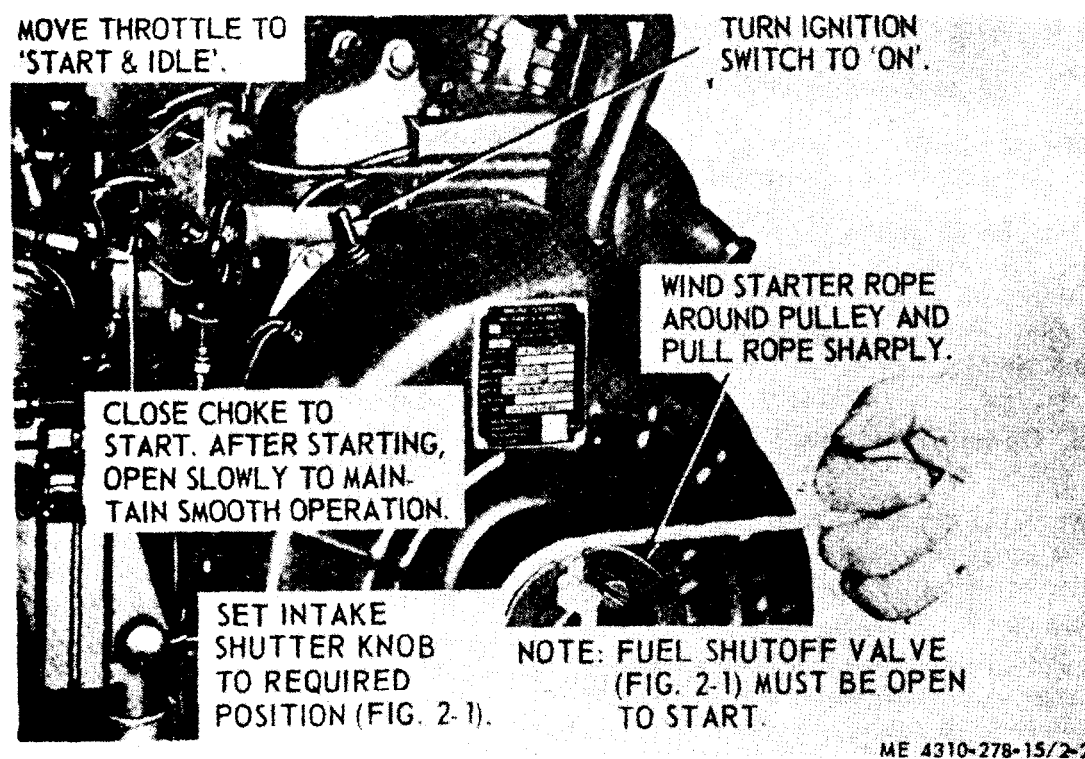

Figure 2-2. Starting the compressor.
b. Starting. Start rotary compressor as shown in figure 2-2.